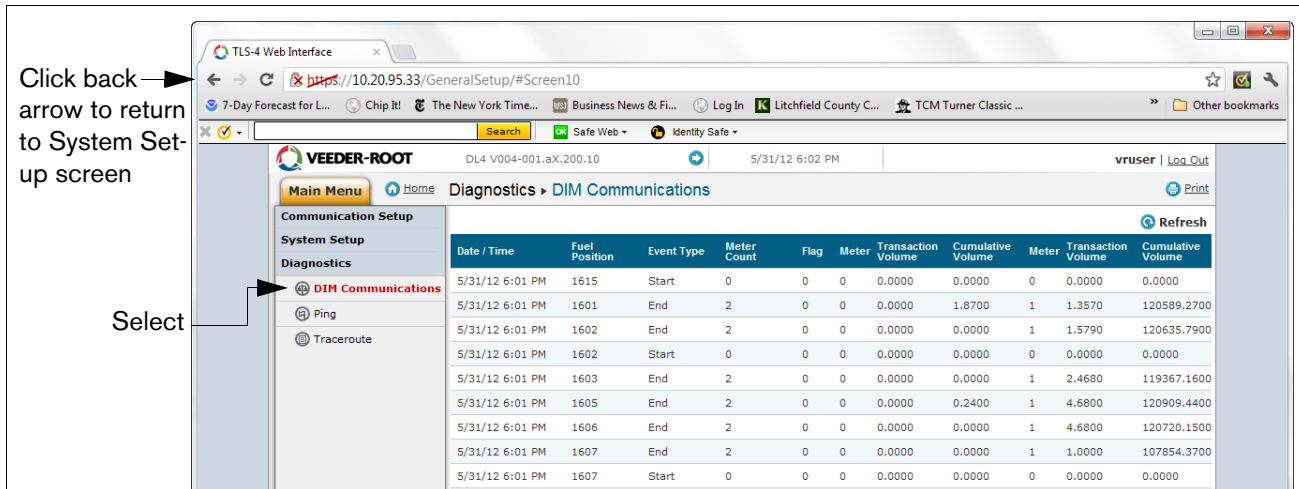

Figure 17. Verifying DIM Communication
14. In the “Diagnostics” page (lower left in above figure), click on “DIM Communications” to verify that the DIM communications are successfully being recorded by the DL. Any transactions occurring after the DL was configured will be shown on the screen (see example in Figure 17).